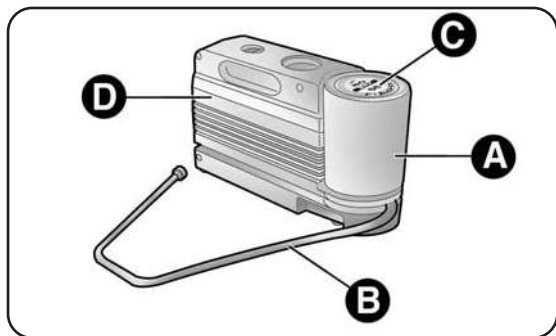

fig. 2
The kit fig. 2 includes:
- a compressor D - fig. 2 including a pressure gauge and connectors, found in the compartment;